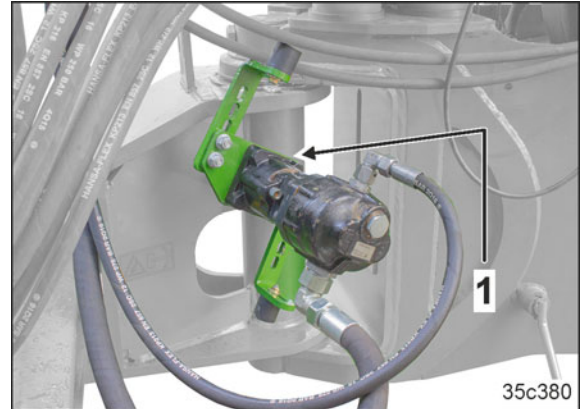

Fig. 145
14. Put the PTO shaft hydraulic pump into parking position (Fig. 145/1)